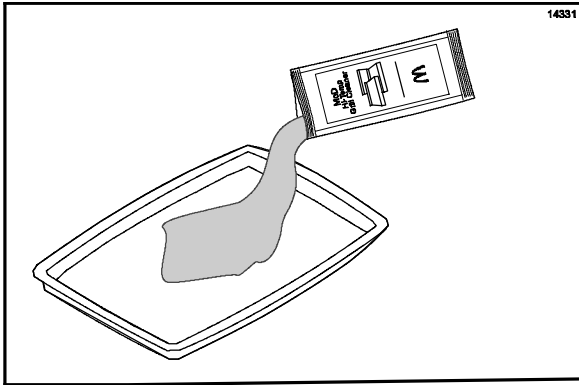

Figure 85
13. Open one packet of **McD Hi-Temp Grill Cleaner (HTGC)**. Empty the contents into an entrée base or stainless steel pan. (See Figure 85.)